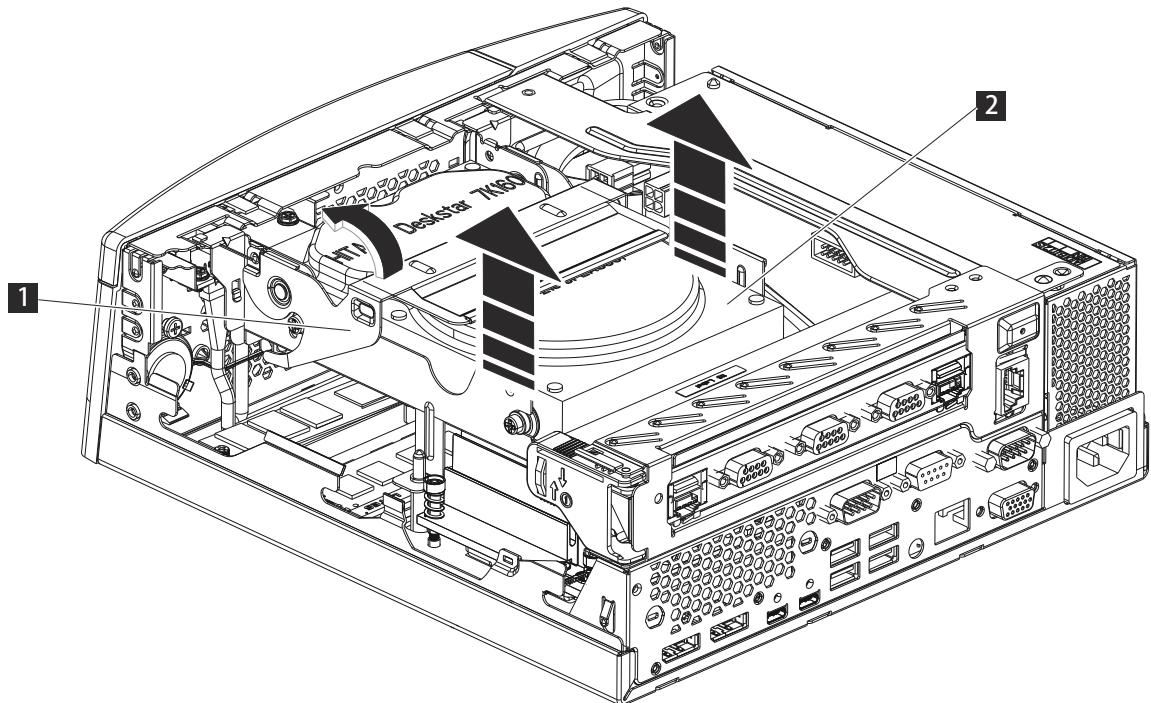

Figure 9. Removing the hard disk drive from a TCx300 unit
2. Rotate the hard drive retainer **1** to the complete open position, as shown by the arrow in Figure 9.